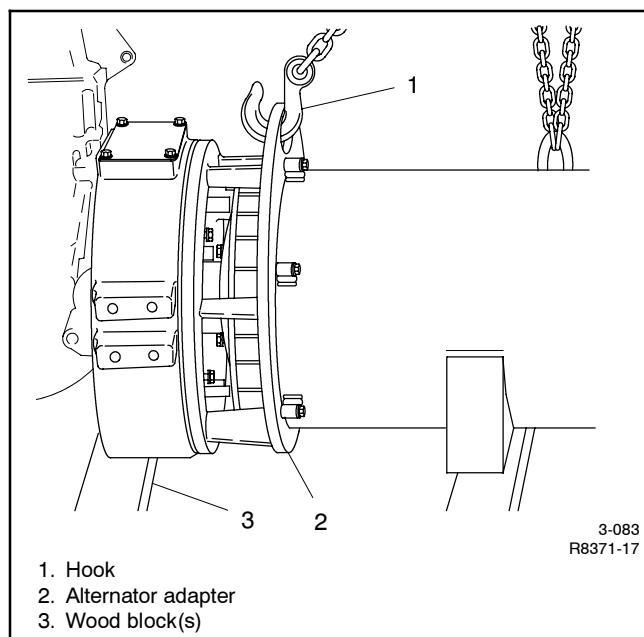

Figure 4-3 Hoisting Alternator
7. Suspend the alternator at both ends with hooks in lifting eyes. Use a hoist to raise the alternator end off the vibromounts. See Figure 4-3.
8. Support the engine by placing wood blocks under the flywheel housing. Lower the alternator end until the alternator flywheel housing rests on the blocks. See Figure 4-3.